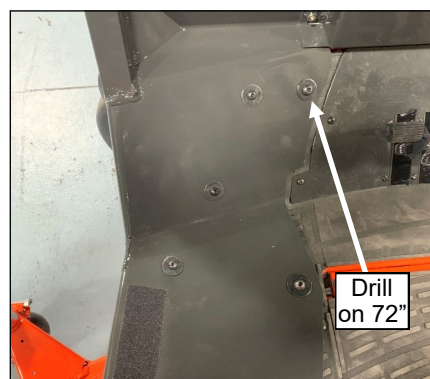

Fig. 5.16 (Drill Hole on 72" Mowers)
5.16 See fig. 5.16. If installed on a 72" mower, drill 9/32" holes through the tractor floorboard centered on the open slots in the cab floorboards. Do not drill too deep to avoid damaging any items on the underside of the floorboard.